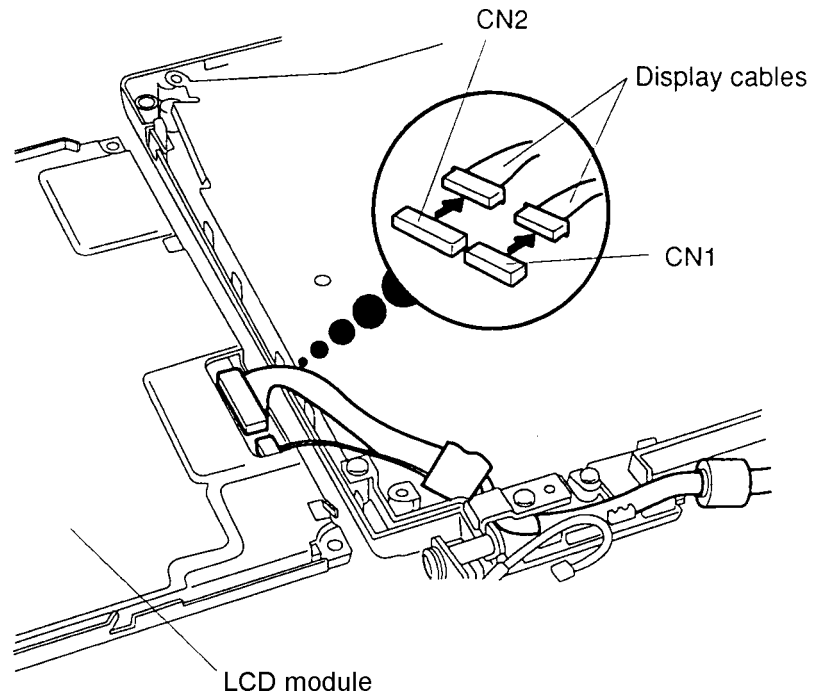

Figure 4-45 Removing the LCD Module
6. Disconnect the **two display cables** from **CN1** and **CN2** on the **LCD module** (Figure 4-45).
1. Connect the two display cables to **CN1** and **CN2** on the **LCD module** (Figure 4-45).